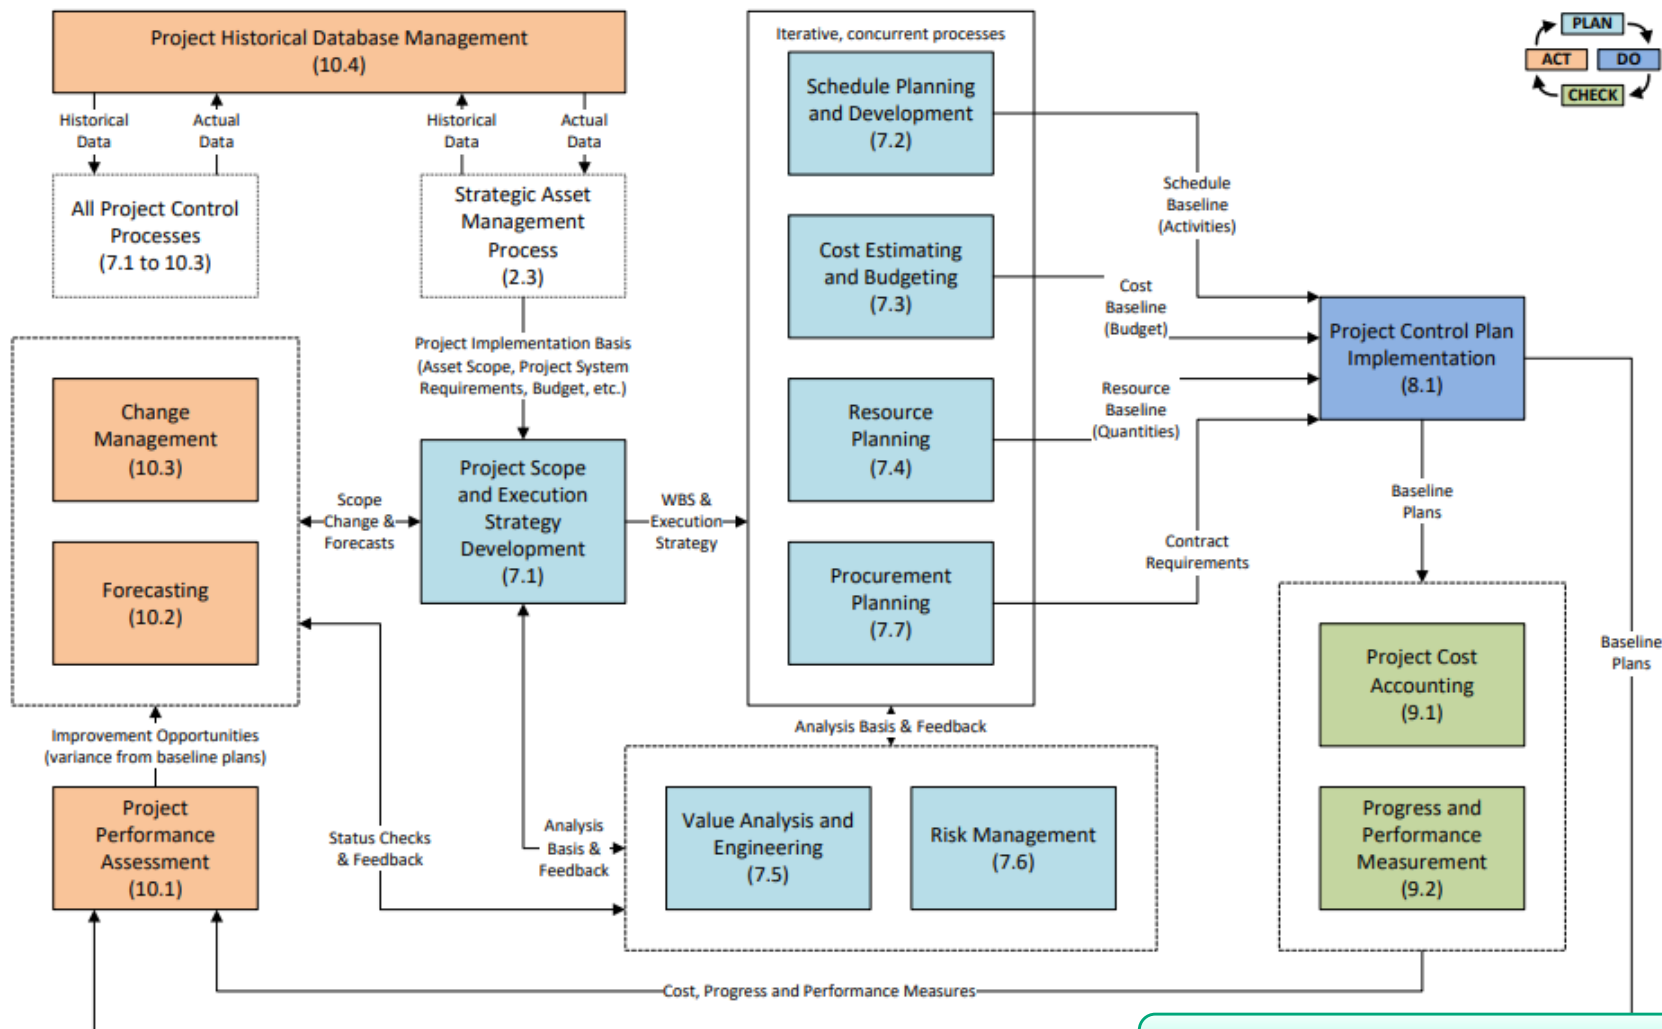

Figure 1 – Project Controls Process - Total Cost Management Framework
- ❑ Figure 1 represents the project controls process of the **Total Cost Management Framework**.